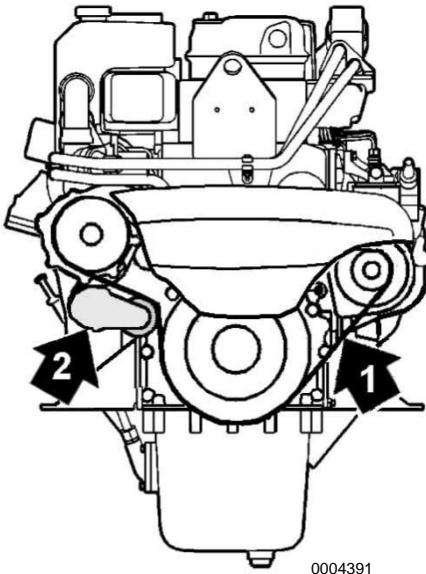

Figure 12
2. Check the belt by pushing on the middle of the belt (**Figure 12, (1)**) with your finger, exerting a force of approximately 98 N, 10 kgf (22 lbf).